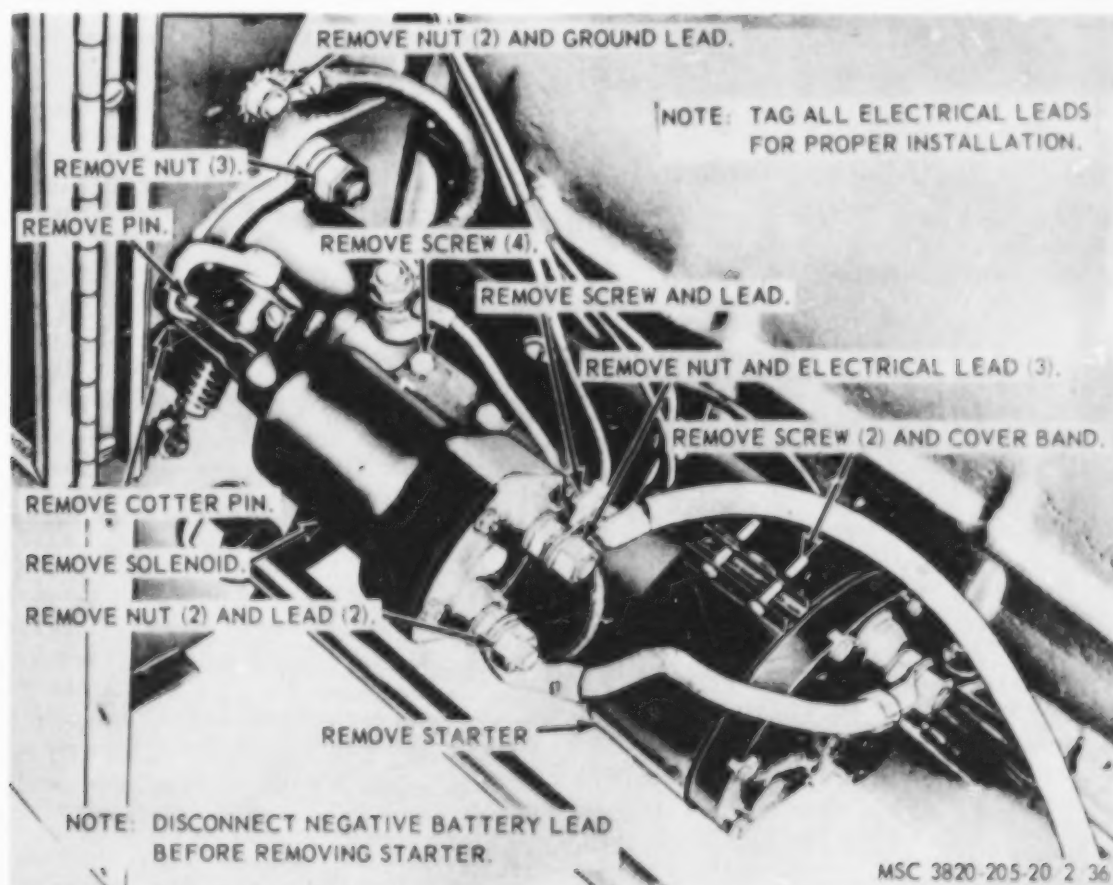

Figure 35. Starter, solenoid, and cover band, removal and installation.
- (1) Connect a heavy jumper lead across the large terminals on the starter solenoid.
- (2) If the starter operates, the solenoid is defective. Replace a defective solenoid.
b. Removal. Remove the starter solenoid from the starter as instructed on figure 35.
d. Installation. Install the starter solenoid on the starter in reverse of the instructions on figure 35.
- (2) If the starter does not operate, it is defective. Replace a defective starter.
b. Removal. Remove the starter from the engine as instructed on figure 35.
- (1) Clean the starter with a cloth dampened with an approved cleaning solvent.
- (2) Replace a damaged or defective starter as necessary.
- (1) Remove the cover band from the starter as instructed on figure 35.
e. Installation. Install the starter on the engine in reverse of the instructions on figure 35.